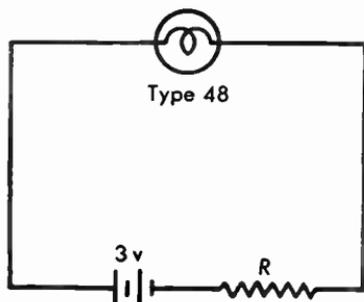

Fig. 2.12 Panel lamp and resistor in series to obtain the rated current and voltage.
2.12 The panel lamp type 48 requires 2 volts and 60 milliamperes. Determine the dropping resistor  $R$  in Figure 2.12 to operate the lamp from two dry cells in series.